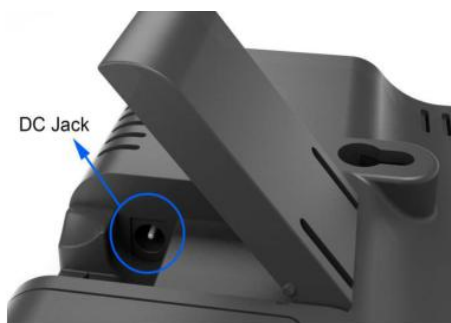

Figure 8
1. Fold out the desk stand and see DC jack on the left;as shown in Figure 8.